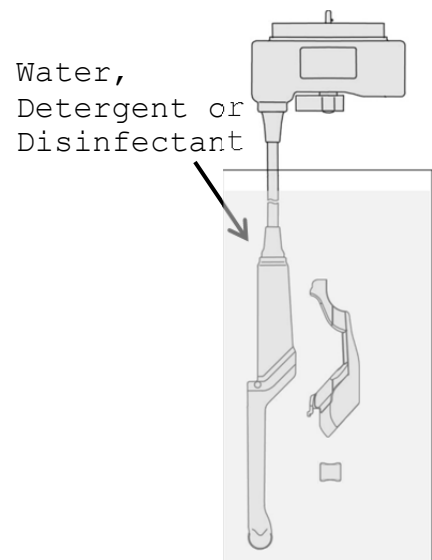

Fig. 18 Immersion of the probe and the Attachment.
- 2) Immerse the immersible part of the probe without connector into the diluted detergent solution (see Fig. 18). Wipe the immersible part of the probe under the surface of the detergent solution with a soft cloth to remove all visible soil. Be sure that all grooves of the probe are implemented during the cleaning process.
- 5) Rinse the probe with running tap water for 1 minute. (alternatively: immerse the immersible part of the probe in a tray filled with deionized water/tap water (see Fig. 18) for 5 min.)
- 4) Rinse the Attachment with running tap water for 1 minute. (alternatively: immerse it in a tray filled with deionized water/tap water (see Fig. 18) for 5 min.)
- 3) Immerse the immersible part of the probe into the disinfectant (see Fig. 18). Set a clock to insure the recommended contact time which is 5 minutes.
- 4) Rinse the immersible part of the probe with deionized water for 1 minute. (alternatively: immerse the immersible part of the probe in a tray filled with deionized water (see Fig. 18) for 5 min.)
- 2) Immerse the Attachment into the disinfectant (see Fig. 18). Set a clock to insure the recommended contact time which is 5 minutes.
- 3) Rinse the Attachment with deionized water for 1 minute. (alternatively: immerse it in a tray filled with deionized water (see Fig. 18) for 5 min.)